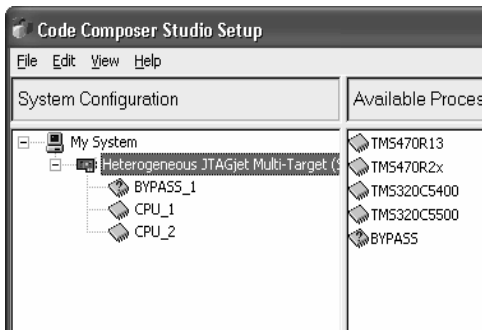

FIGURE 22
5. The resulting CCS Setup window should look like Figure 22.